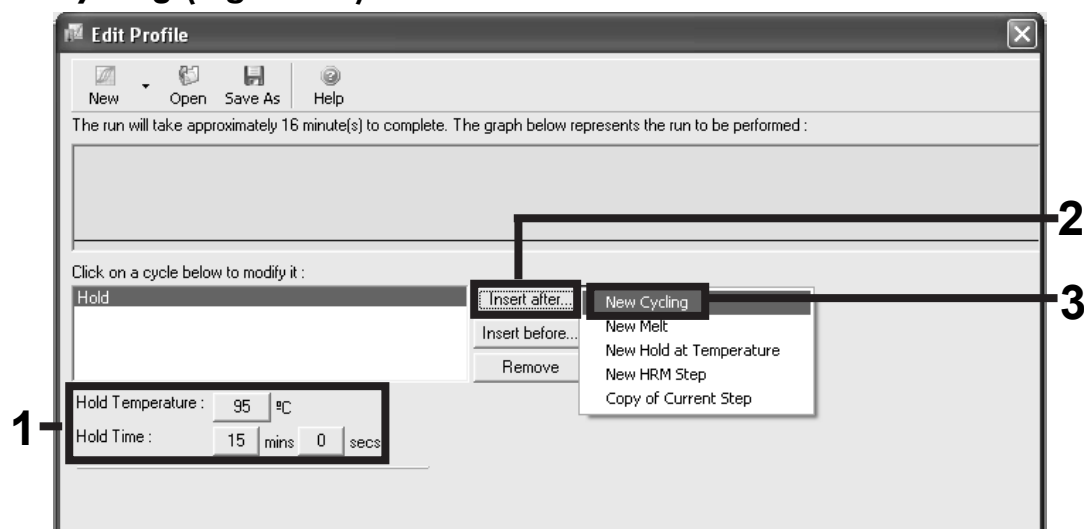

Figure 19. Initial incubation step at 95°C.
8. Change "Hold Temperature" to 95°C and "Hold Time" to 15 mins 0 secs. Click the "Insert After" button and then select New Cycling (Figure 19).